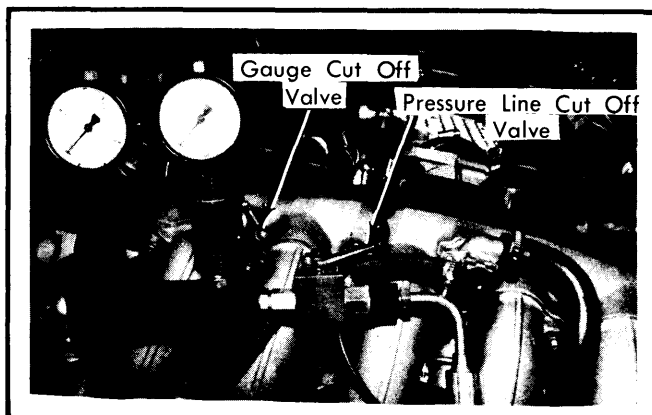

Fig. 6 Power Steering Pump Pressure Check
- 2) Shut cut-off valve on gauge. Open shut-off valve on pressure line (See Fig. 6), and bleed system with engine running at idle. After bleeding, close valve in pressure line for 10 seconds maximum and read pressure. On 528i and 633CSi, pressure should be 1400±140 psi (98.5±9.8 kg/cm2). On 733i, pressure should be 1560±156 psi (109.5±11 kg/cm2). If pressure is not within limits, check belt tightness. Repair or replace pump if belt adjustment does not remedy problem.